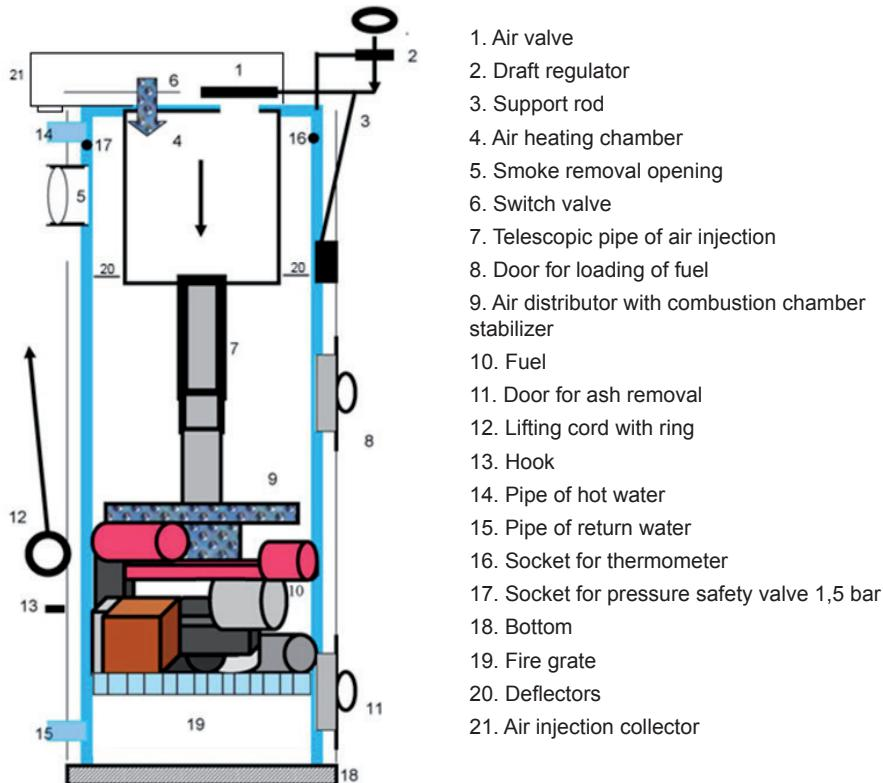
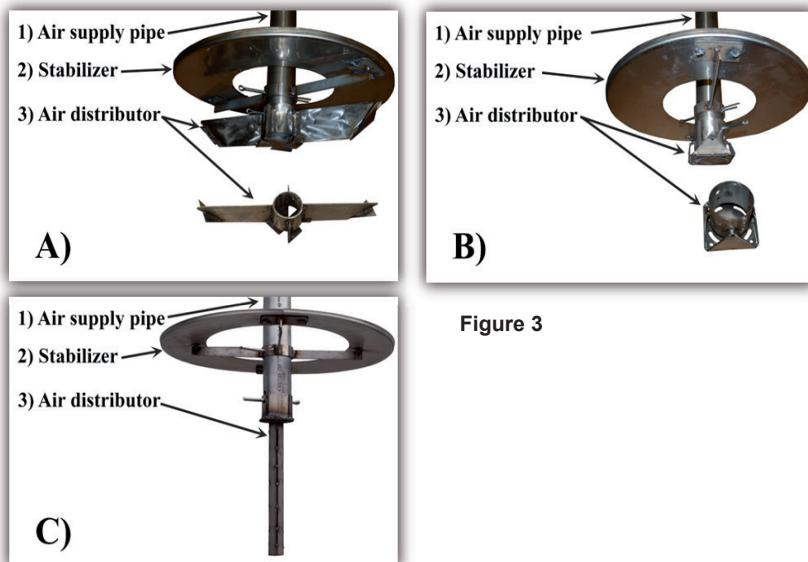
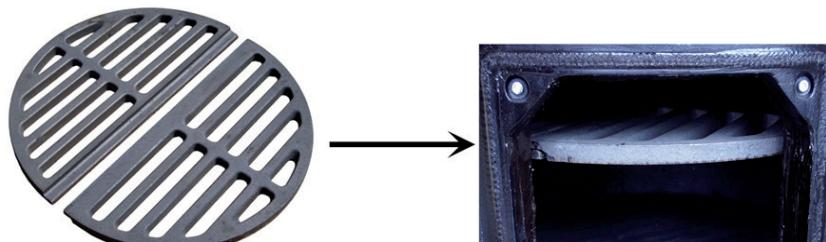
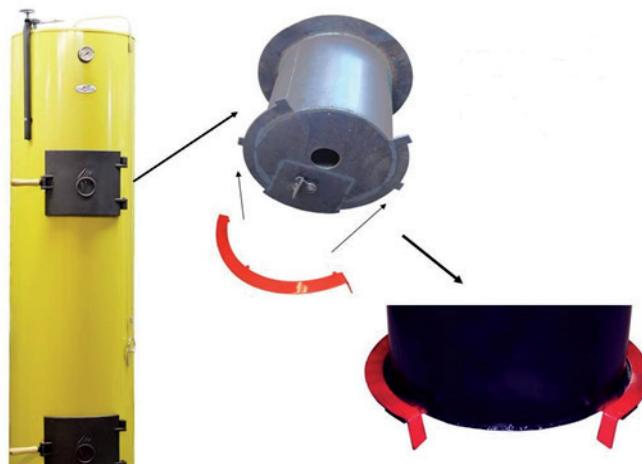

Figure 1
Figure 3
Figure 4
Figure 5
3.2 AIR DISTRIBUTOR WITH BURNING CHAMBER STABILIZER (Figure 3)
Burning chamber stabilizer is mounted (fig. 3), on the smallest part of telescopic air supply pipe (7) (fig. 1), it is integral in new boilers. We also developed units for repairs that consist of two parts. If telescopic air supply pipe (7) (fig. 1) has three holes, then stabilizer is locked in third hole with a pin, if it has only one hole, additional hole must be drilled 55mm from the existing hole. After mounting the stabilizer, air distributor can be mounted (fig. 3). When burning pellets, small firewood, distributor must be mounted on middle hole, so that space between the end of air supply pipe (7) (fig. 1) and distributor would be reduced to 5 – 7 mm.
A) We recommend using distributor with combustion chamber stabilizer (fig. 3) when burning firewood, briquettes. This burner is included with firewood boilers.
B) We recommend using distributor with combustion chamber stabilizer (fig. 3) when burning firewood, briquettes and pellets. We also recommend using air injection collector (fig. 2) with this burner. This distributor is used with "U" and "BIO" boilers.
C) We recommend using distributor with combustion chamber stabilizer (fig. 3) when burning peat and coal. We also recommend using air injection collector (fig. 2) with this burner. This distributor is used with "U" boilers.
When fuel burns, ash gather under air distributor with combustion chamber stabilizer (fig. 3), but it does not obstruct the burn, on the contrary – it protects the part from heat. **Do not lift air distributor with combustion chamber stabilizer (fig. 3) when it is not necessarily needed, this way you will increase its lifespan!!!**
3.3 FIRE GRATE (figure 4)
Use fire grate (19) (fig. 1); (fig. 4), when burning pellets, coal, peat and sawdust briquettes. After opening the bottom door (11) (fig. 1), it needs to be hanged on hooks at the bottom of boiler. You will find fire grate (19) (fig. 1); (fig. 4) inserted, after you open the bottom door for ash removal (11) (fig. 1). In "U" boiler this part is used to get additional air inside through the channel at the bottom of boiler, which is needed when burning coal and peat briquettes. In "BIO" boiler it is needed to completely burn formed cinder. Put the fire grate (19) (fig. 1); (fig. 4), on the bottom of universal and "BIO" boiler when burning wood. This part is included with "U" and "BIO" solid fuel boilers "Stropava".
3.5 DEFELCTORS (figure 5)
Deflectors (crescent) 2 pcs. (fig. 5) are designed to increase the efficiency of boiler. After mounting the deflectors (20) (fig. 1) we recommend putting it in through upper door, for loading fuel, (8) (fig. 1) on the bottom edge of inner air preheating tank.
If there is excessive draft in boiler, use valve (flue ring) (fig. 6) to add additional air from boiler room. Flue ring is on the opening used for boiler smoke removal (5) (fig. 1). Flue hole must be open in order to reduce draft and vibration. In order to increase draft – use flue ring (fig. 6) to close the hole.
Valve must be mounted at the upper part of boiler (17) (fig. 1) near the flue (see 6.2; 6.3; 6.4; in connection diagrams No. 23). Cold water from water supply system is connected to system of automatic water addition, which is connected to water return line of heating system, near the boiler.